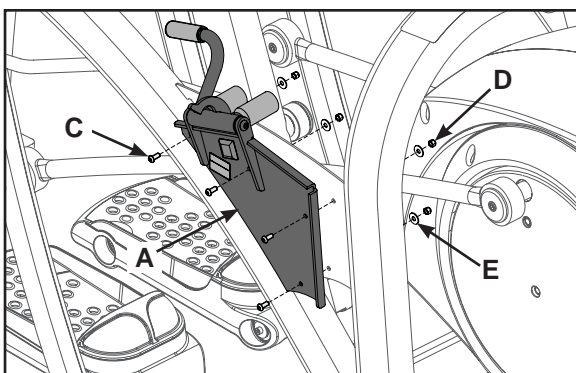

Figure 3
- A. Place locking arm assembly on the side plate. See Figure 3.
- B. Using a 5/32" Allen wrench and a 7/16" open end wrench, attach the four Button Head Socket Cap Screws (BHSCS) (C), washers (E) and nylon locknuts (D) securing the locking arm assembly (A) to the side plate. See Figure 3.